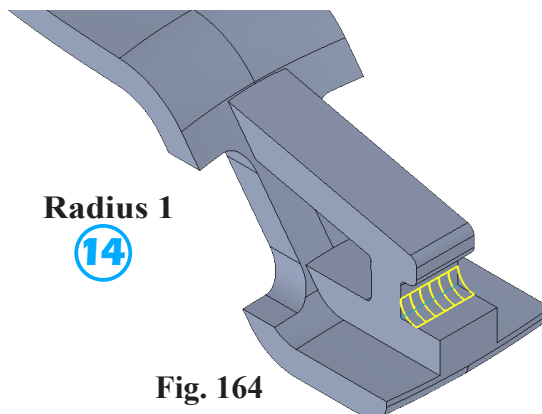

Fig. 164
⑭ **Radius**  1
click **edge of support (1)**, Fig. 164